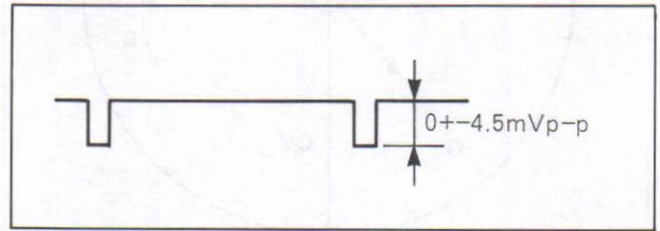

Fig.C18-2
- (3) Set the oscilloscope to "ADD" mode and "INVERT" mode for CH-2. And connect the oscilloscope CH-1 to TS7(test round) and CH-2 to TS10(test round).
- (4) Adjust VR319 so that the level of waveform becomes 0±4.5mV as shown in Fig.C18-2.
- (5) Connect the oscilloscope CH-1 to TS7(test round) and CH2 to TS11(test round).
- (6) Adjust VR317 so that the level of waveform becomes 0±4.5mVp-p as shown in Fig.C18-2.